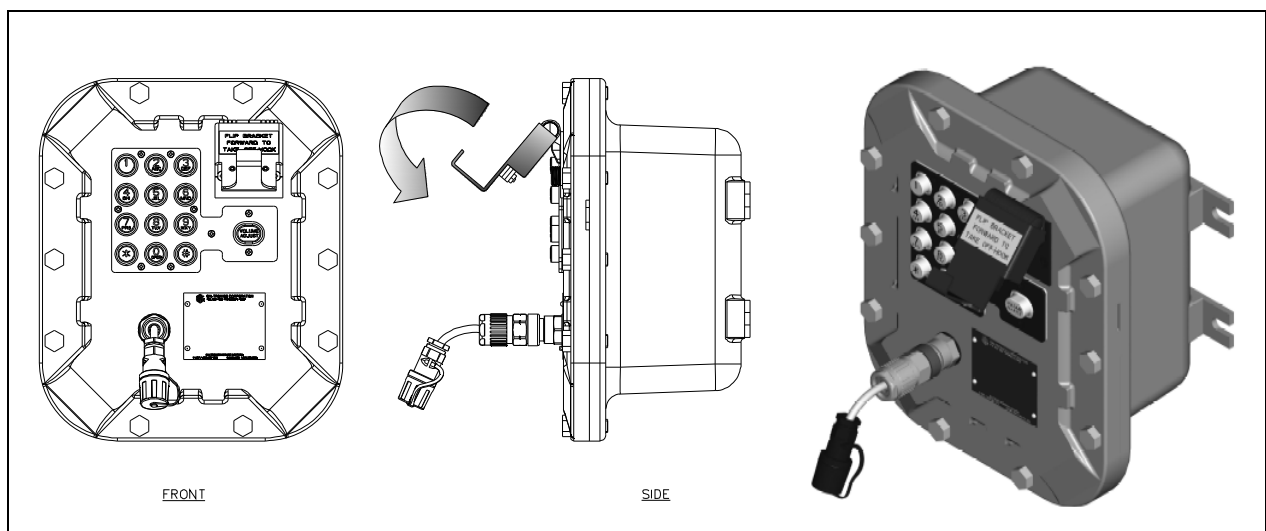

Figure 13. Models 352-003 and 352-004—Headset Disconnection
5. Flip the headset activation bracket to its vertical preset position to hang up. If applicable, place the headset on the bracket after completing the call. Otherwise, disconnect the flexible receptacle and plug by unscrewing the two ends, and pulling them apart. When disconnected, reattach the sealing cap to the end of the receptacle (see Figure 13).